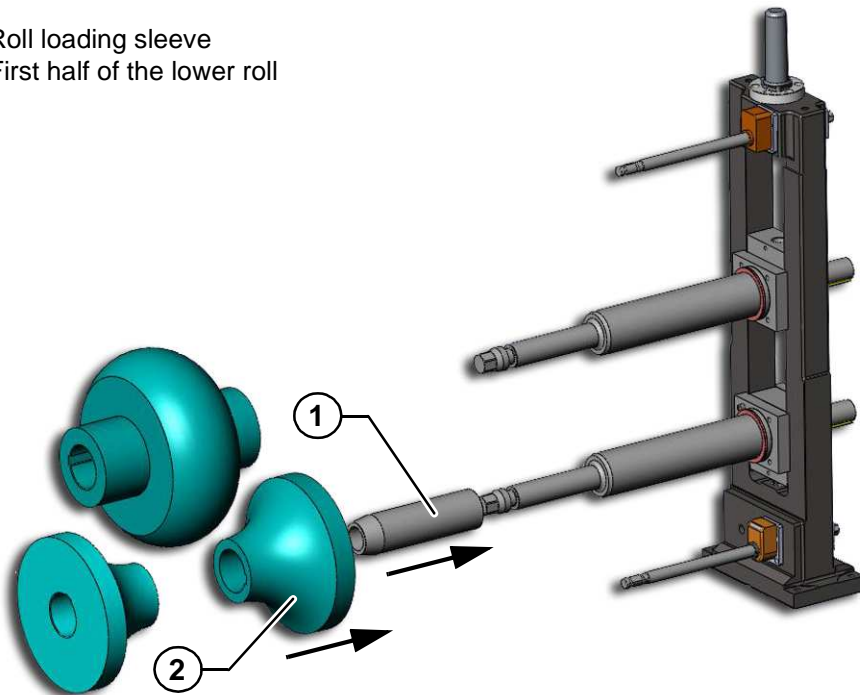

Fig. 2-C Roll assembly: phase 1
- 2- Place the roll loading sleeve pos.1 on the upper shaft and install the upper roll pos.3 in *Fig. 2-D*.